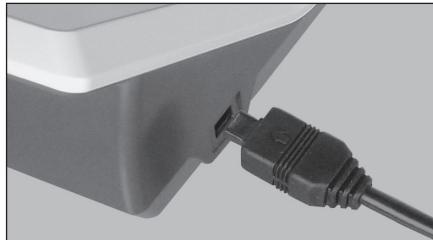

Fig. 1
- 1) Position the AC Adaptor plug so that → mark is on its bottom face, then insert it to the AC Adaptor inlet on the side of the Control Unit. (Fig.1)